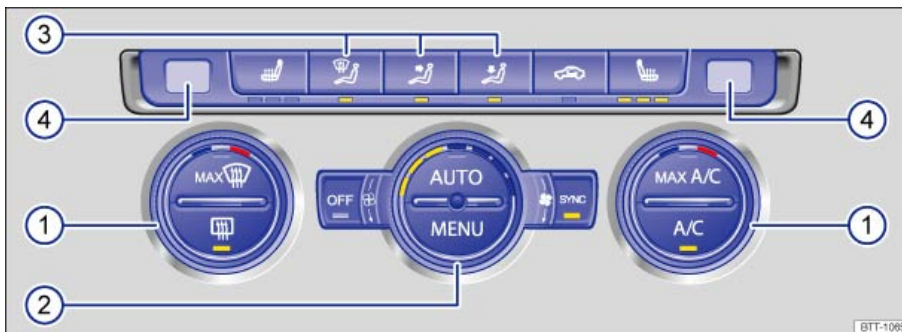

Fig. 150 In the center console: Climatronic controls.
Button/Knob	More information: Climatronic ⇒ fig. 150 .
- Press the **MENU** $\Rightarrow$ fig. 150 button.